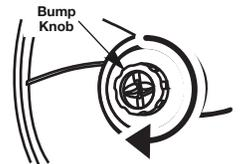

Fig. 19
1. Rotate the bump knob clockwise until all line is inside the cutting head (Fig. 19).
3. Hold the spool cover, turn the bump knob clockwise to wind the line around the spool until about 5 in. (12.7 cm) is protruding from each side of the cutting head. (Fig. 19)